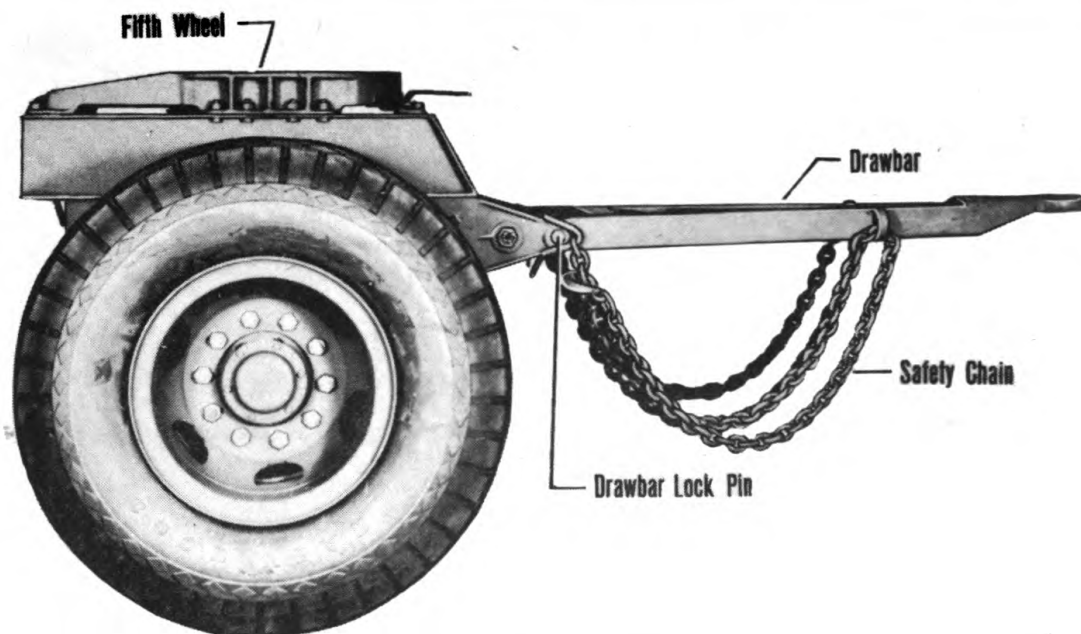

Figure 48—Front Dolly with Fifth wheel
1. Remove the fifth wheel from the dolly frame by loosening and removing the hex nuts from the 14 mounting bolts; lift the fifth wheel from the dolly frame. (See figure 48.)